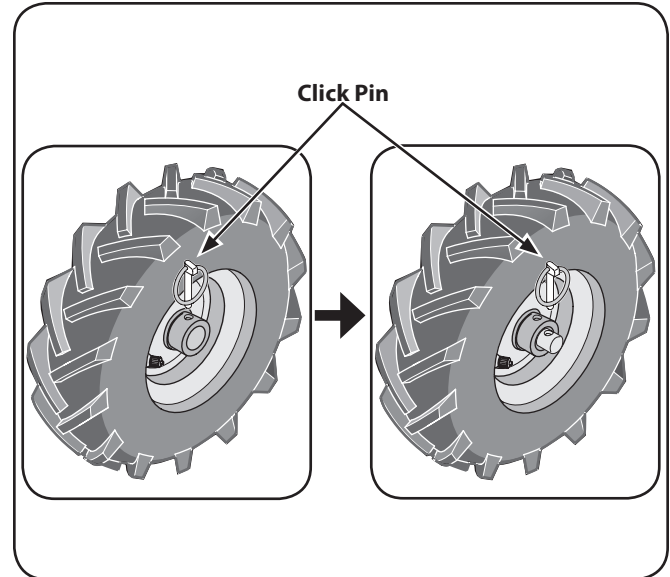

Figure 3-3
- Remove the click pin from the wheel hub and wheel shaft. See Fig. 3-3.
- Slide the wheel fully inward on the wheel shaft. Reinstall the click pin through the wheel shaft only (not through the wheel hub). See Fig. 3-3. The wheel should now spin freely (freewheel) on the wheel shaft. Repeat with the other wheel.